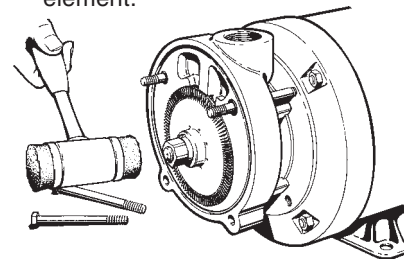

Figure 4-7
2. Remove the two (2) 3/8" nuts (#20), and the two (2) 3/8" X 4" bolts (# 19) from the cover. (#2)
4. Remove the impeller (#11), refer to Figure 4-7. The impeller is a slip fit and, under normal conditions, can be removed by gently